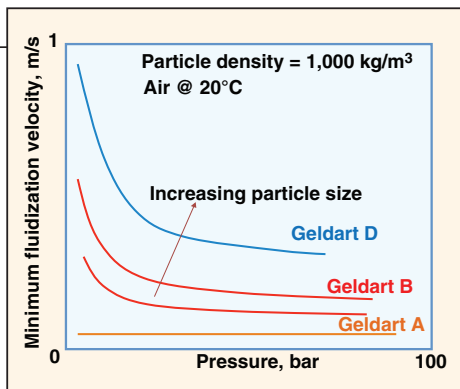

FIGURE 5. The effect of pressure on minimum fluidization velocity is shown here (adapted from Yang [12])
- Effect of pressure (as shown in Figure 5):